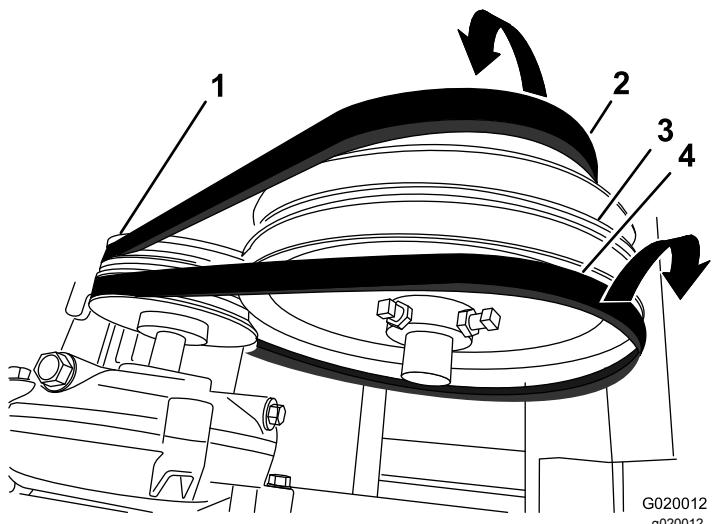

Figure 66
- Slip the forward belt forward and off the idler pulley (Figure 66).
- Slip the rear belt rearward and off the idler pulley (Figure 66).